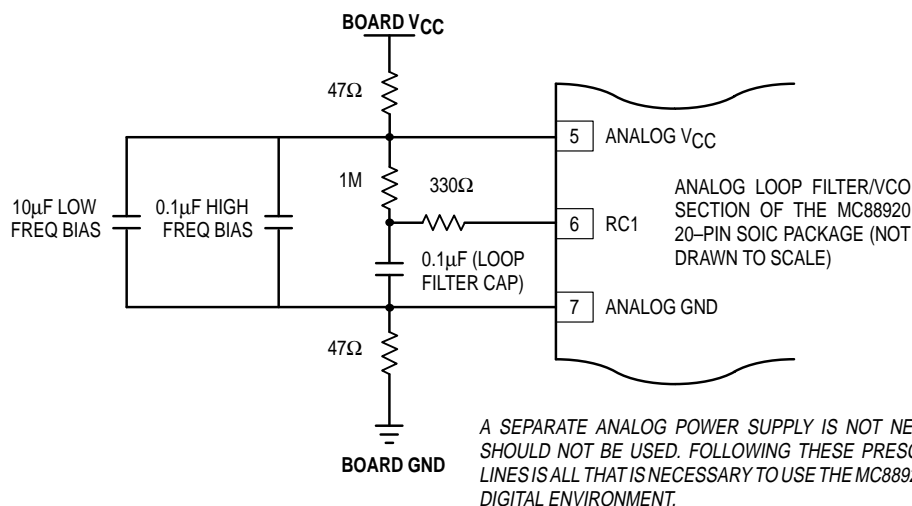

Figure 7. Recommended Loop Filter and Analog Isolation Scheme for the MC88920
- Figure 7 shows a loop filter and analog isolation scheme which will be effective in most applications. The following guidelines should be followed to ensure stable and jitter-free operation:
purpose of the bypass filtering scheme shown in Figure 7 is to give the 88920 additional protection from the power supply and ground plane transients that can occur in a high frequency, high speed digital system.
- In addition to the bypass capacitors used in the analog filter of Figure 7, there should be a 0.1 $\mu$ F bypass capacitor between each of the other (digital) four  $V_{CC}$  pins and the board ground plane. This will reduce output switching noise caused by the 88920 outputs, in addition to reducing potential for noise in the 'analog' section of the chip. These bypass capacitors should also be tied as close to the 88920 package as possible.